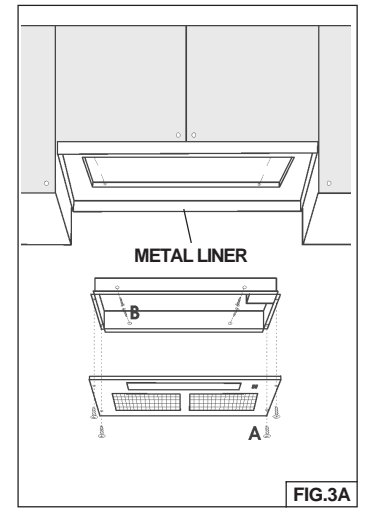

FIG.3A
3. **NOTE:** For installations where the Power Pack is less than 30" above cook top, it is recommended that the Power Pack be mounted into a metal liner or non-combustible material. This will allow easier cleaning and provide protection to the cabinetry (Fig.3A).
4. Insert the hood in the cabinet (Fig. 3) or metal liner (Fig. 3A) and secure with the (4) "B" mounting sheet metal screws.